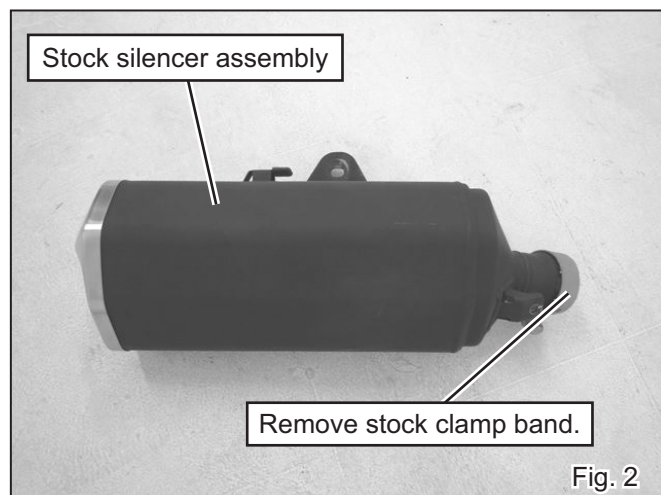

Fig. 2
- 3) Remove stock clamp band from stock silencer assembly removed at Step 2) (See Fig. 2).